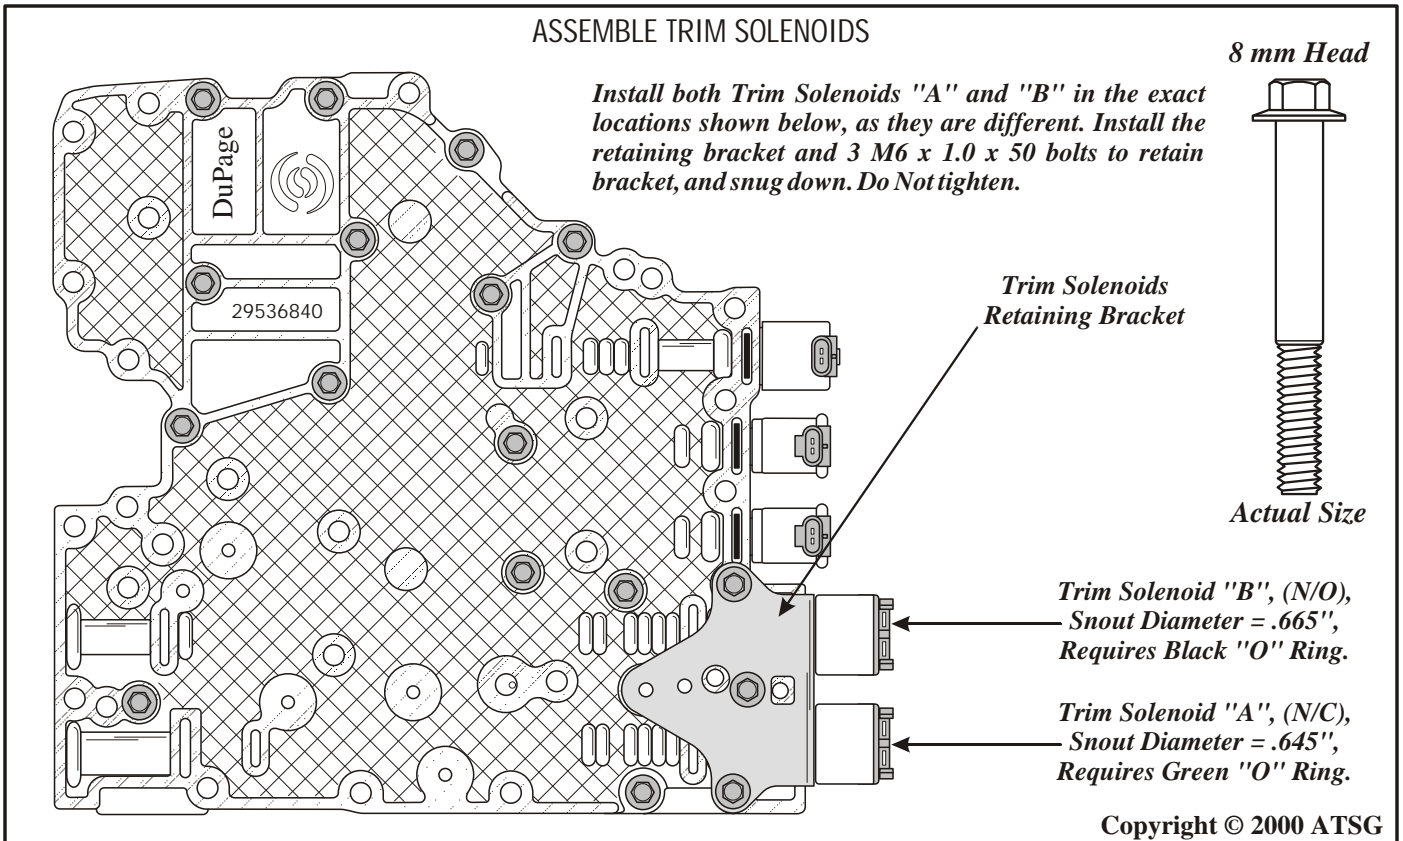

Figure 127
18. Install both Trim Solenoids "A" and "B" in the exact locations shown in Figure 127.
Note: The trim solenoids have different snout dimensions and "O" ring colors, as shown in Figure 127. Ensure that they are installed in their proper locations.
19. Install the trim solenoid retaining bracket and three M6 x 1.0 x 50mm bolts, as shown in Figure 127, and snug them down.